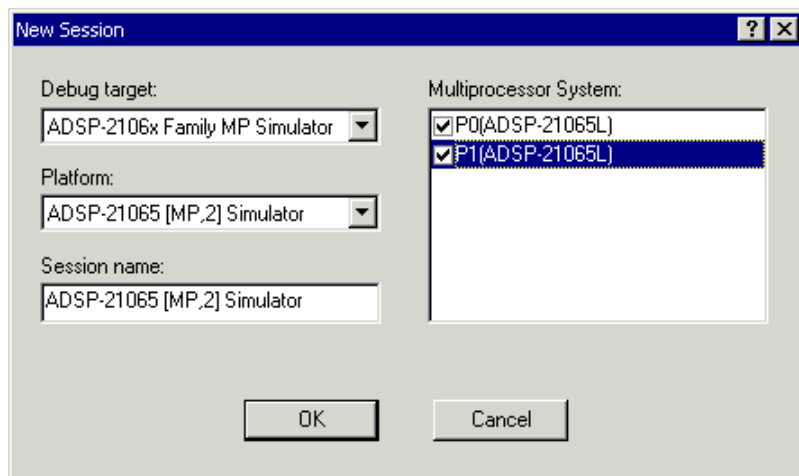

Figure 3-36. New Session Dialog Box: Setting up a Multiprocessor Simulator Session
2. From the **Session** menu, choose **New Session** to open the **New Session** dialog box, shown in Figure 3-36.
4. Under **Multiprocessor System**, select the check boxes next to processors **P0** and **P1**, as shown in Figure 3-36.